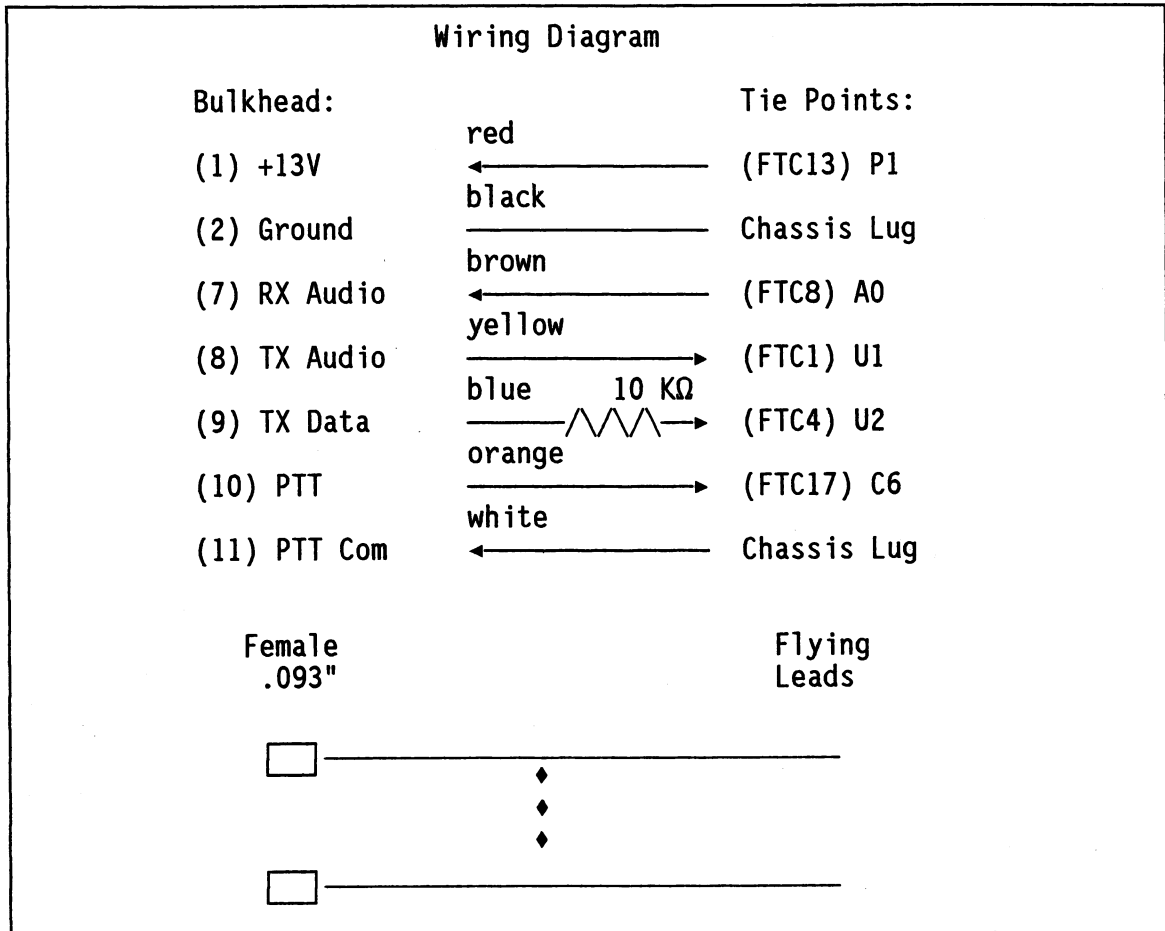

Figure 4-9. Relm Repeater Jumper Cable (P/N 709-7152)
- []5. Locate the Zetron jumper cable (Part No. 709-7152) in the cable kit (Part No. 815-9071). See Figure 4-9.